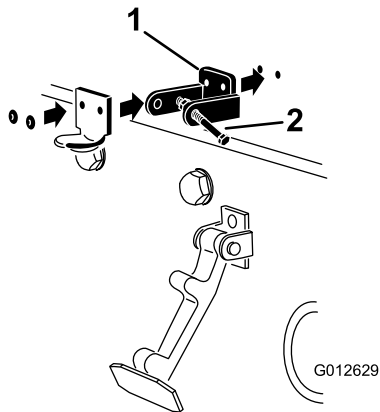

**Figure 3**
- Remove the 2 rivets securing the hood-latch bracket to the hood (Figure 3).